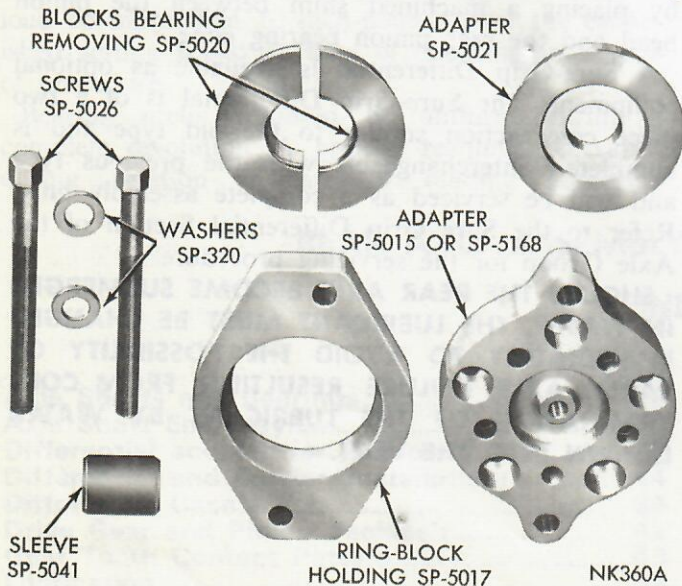
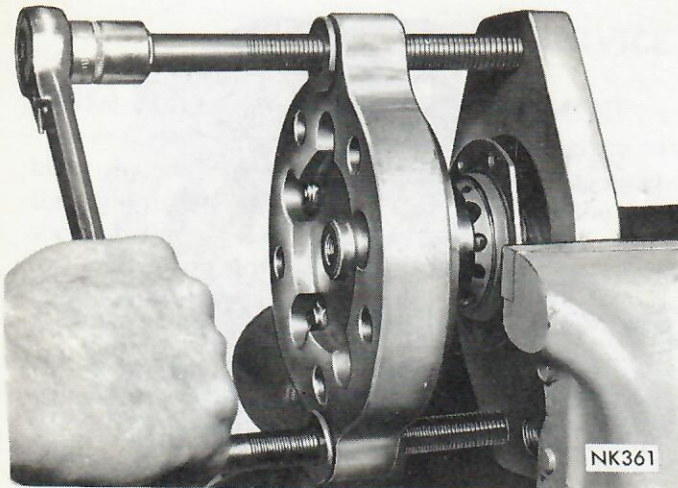

Fig. 3 Tool Set C-3971
Fig. 12 Removing Bearing Cone with Tool C-3971
(3) Attach axle shaft remover Tool C-3971-A (Fig. 3) (adapter SP-5168 may be required) to axle shaft flange and remove axle shaft. Remove brake assembly and gaskets.
(7) Remove the bearing cone using Tool C-3971-A (Fig. 3). Tighten bolts of tool alternately until cone is removed (Fig. 12).
(8) Remove seal in bearing retainer plate and